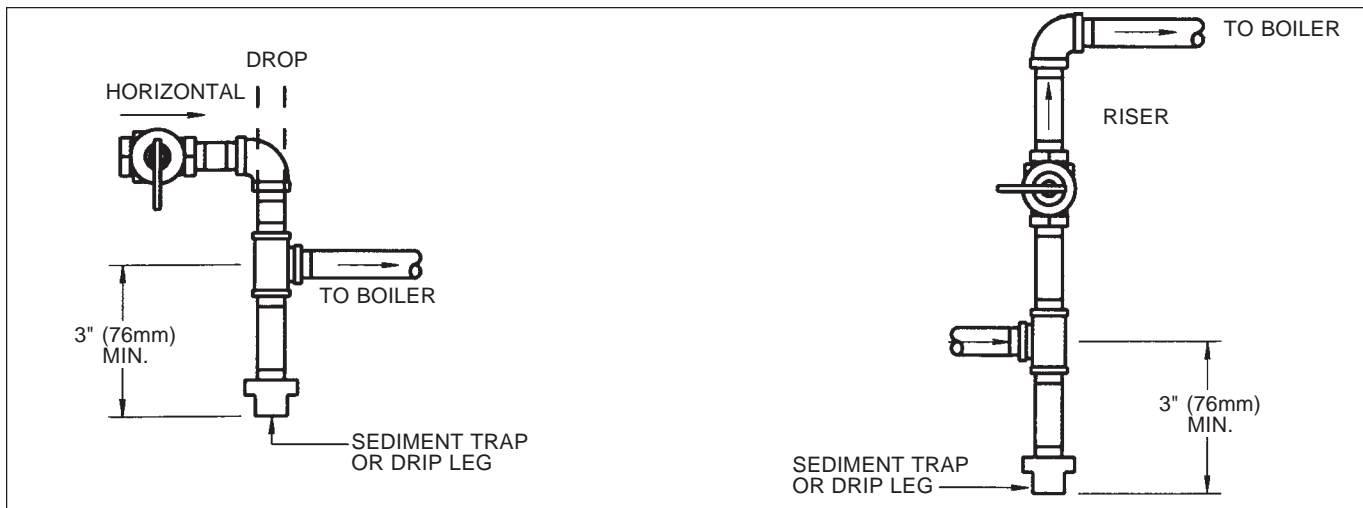

Figure 3. Gas Supply Piping.
3. A trap (drip leg) must be provided ahead of the gas controls (see Figure 3). A manual gas shutoff valve approximately 5' (1.5m) above the floor must also be provided for service, convenience and safety. Check the local codes.